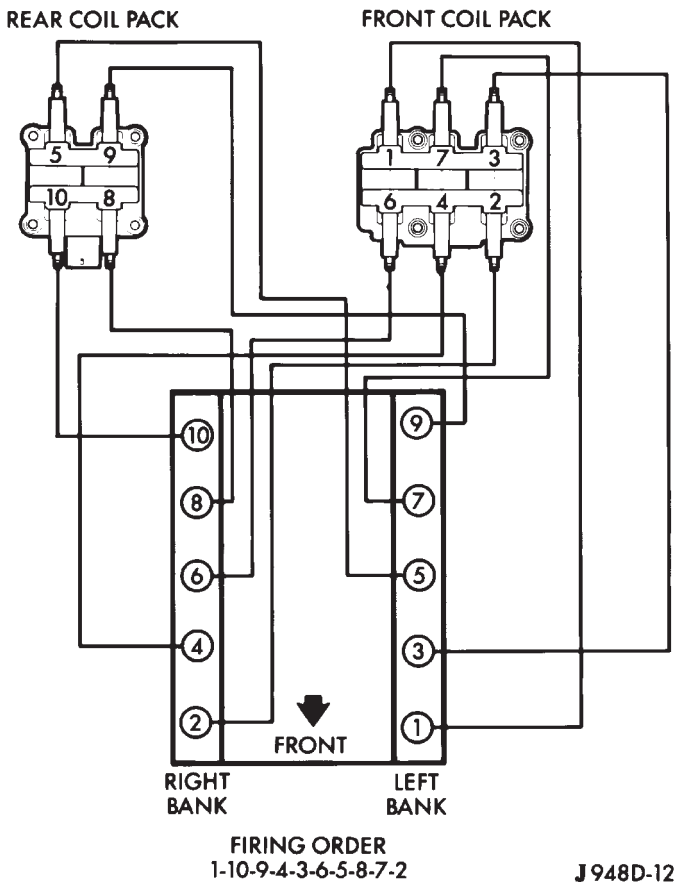

Fig. 44 Spark Plug Cable Order—8.0L V-10 Engine
- (1) Position coil packs to mounting bracket (primary wiring connectors face downward).
- (2) Install coil pack mounting bolts. Tighten bolts to 10 N·m (90 in. lbs.) torque.
- (3) Install coil pack-to-engine mounting bracket (if necessary).
- (4) Connect primary wiring connectors to coil packs (four wire connector to front coil pack and three wire connector to rear coil pack).
- (5) Connect secondary spark plug cables to coil packs. Refer to (Fig. 44) for correct cable order.